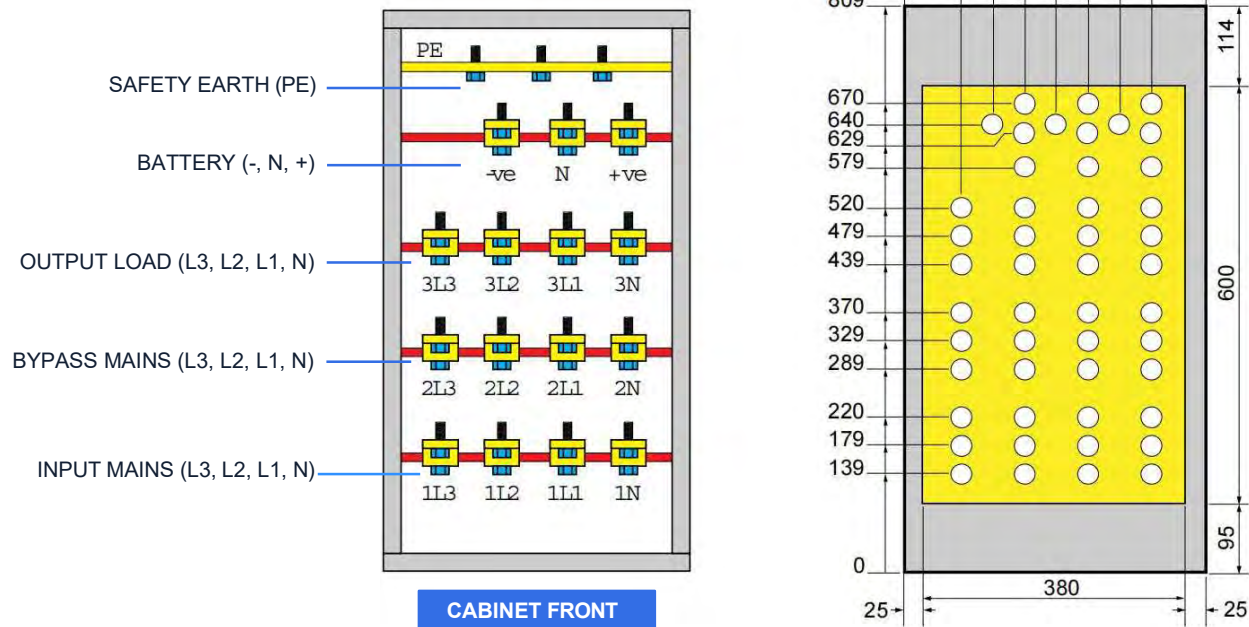

Figure 3.20 TCE Cabinet top view
Figure 3.20 shows the location of the various power busbars when viewed from the top of the TCE cabinet. The right-hand drawing illustrates the position of the busbar terminals below the aluminium top plate, which can be removed for drilling and fitting suitable cable glands. Note that this illustration is provided for guidance only and does not specify the exact positioning of required gland holes.
Figure 3.20 shows that when looking from the top of the TCE cabinet the terminal busbars are arranged in sequence as Earth (PE), Battery, UPS Output, Bypass Mains and Input Mains. When you connect the power cables it is normally easiest to work forward from the back connections, as follows:
1. Connect the protective earth (PE) cables from the input distribution panel, output distribution panel and battery cabinet to the earth busbar at the top rear of the TCE cabinet.